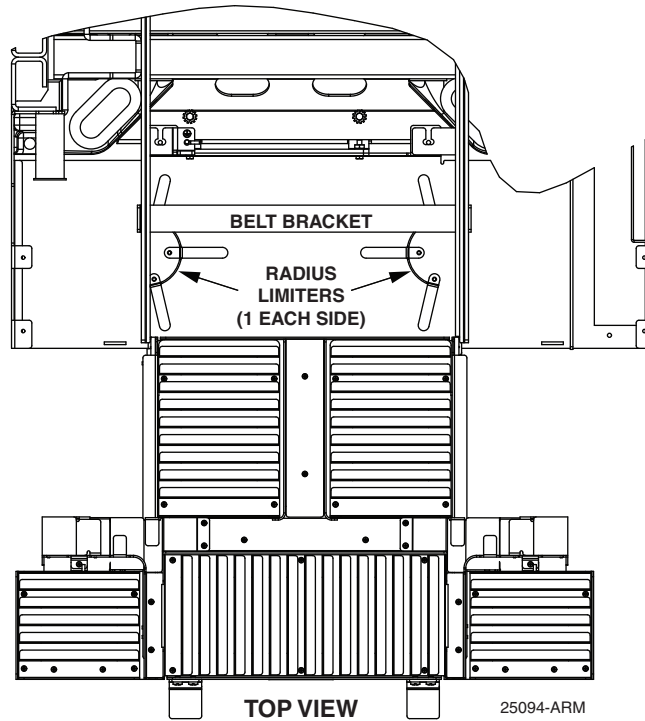

Figure 7. Location of Radius Limiters
- a. Use the top view provided in Figure 7 to identify where the radius limiters will be installed. There is one radius limiter on each side.